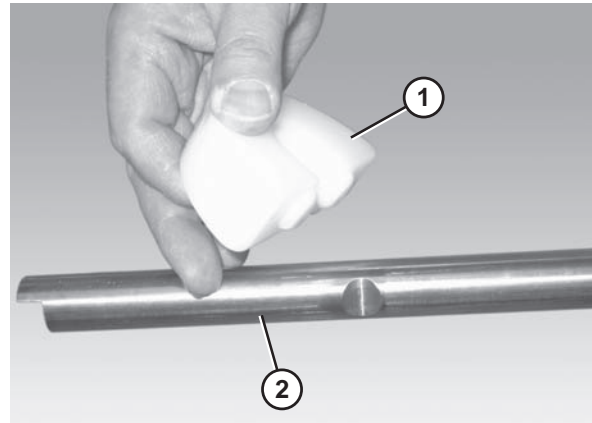

Figure 39
1. Attach the chain return shoes (Figure 39, item 1) to the return shaft (Figure 39, item 2).